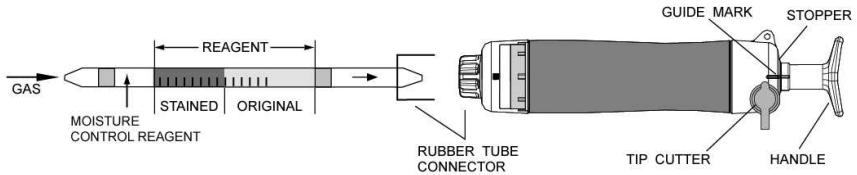

Fig.1
- ② Insert the detector tube into aspirating pump securely as shown in Fig.1. (Arrow mark shall point to the pump.)
- ③ Align the guide marks on the handle and stopper of the aspirating pump.
- ④ Pull the pump handle at full stroke until it locks and wait for 1.5 minutes or until the completion of sampling is confirmed with the flow indicator of the pump (See descriptions about the flow indicator in the instructions of the pump).
- ⑤ On completion of sampling, read the scale at the maximum point of the stained layer.